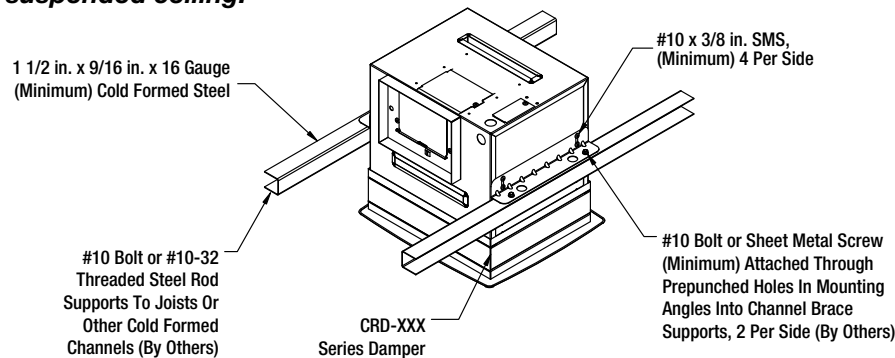

Figure 5
- 2) Support fan/damper assembly using (2) minimum 16 ga. x 1 1/2 in. steel channels with 9/16 in. flanges. Suspend from joists or cold rolled channels (do not suspend from beams). Alternatively, bolt channels ends directly to joists or other cold rolled channels using minimum #10 bolts. See Figure 5.